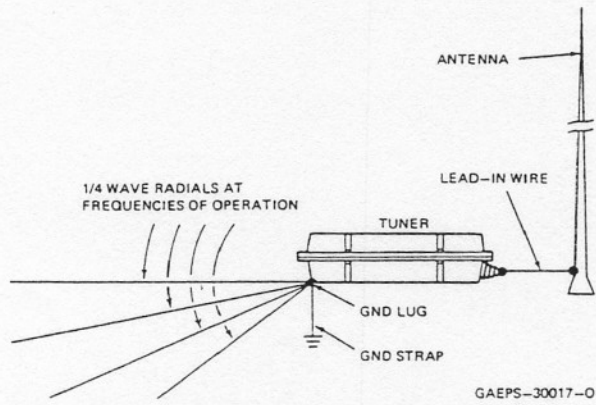

Figure 15. Radial Ground System
4.5 An artificial ground plane can be further improved with the addition of copper screening connected through a ground strap to the base of the antenna tuner and placed in the immediate vicinity of the antenna tuner. The antenna tuner should also be grounded to copper pipes, the metal water tank, and the engine to extend the ground system. The addition of 1/4 wavelength radials extending from the ground lug of the antenna tuner creates a further improvement in system performance. Figure 15 shows a radial ground system.